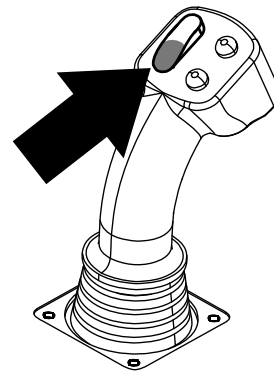
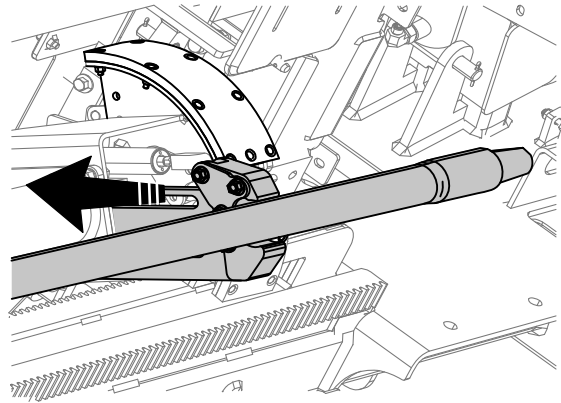

Figure 14
Figure 15
7. Hold the lower section of the rocker switch (Figure 14) until the arms fully retract (Figure 15).